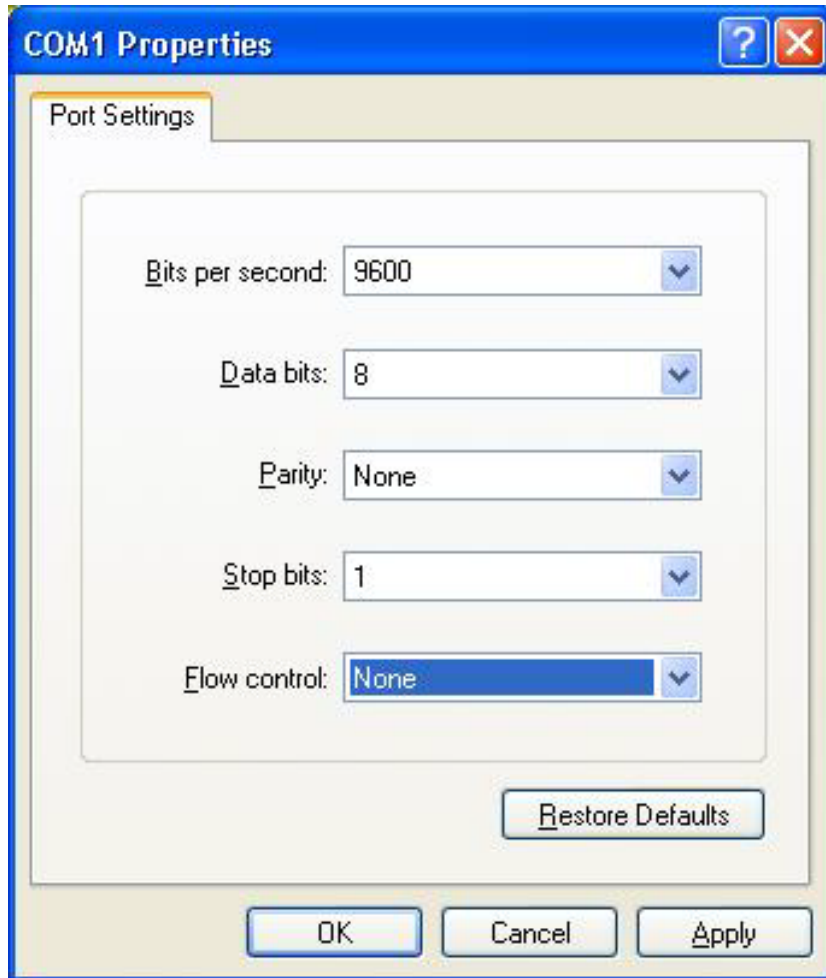

Figure 31 Port Settings
Step 5: Set port parameters (Bits per second: 9600, Data bits: 8, Parity: None, Stop bits: 1, and Flow control: None), as shown in Figure 31.